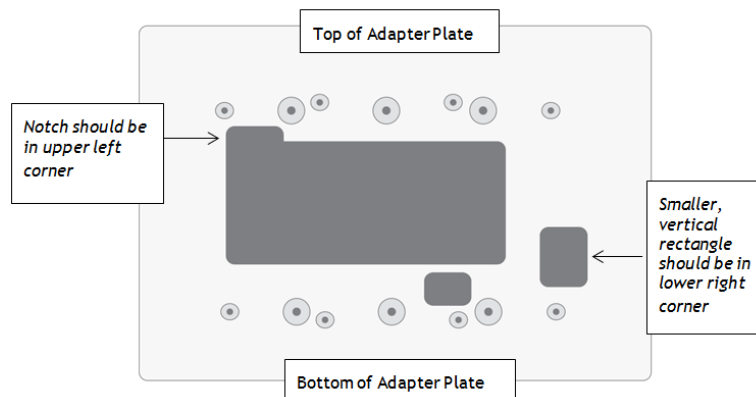

Figure 4: Determine Top & Bottom of Plate
Step 8 Determine which end of the adapter plate should be installed as the top, and which end should be installed as the bottom. As shown in Figure 4, the notch in the main display should be in the upper left corner, and the smaller, vertical rectangle should be in the lower right corner.